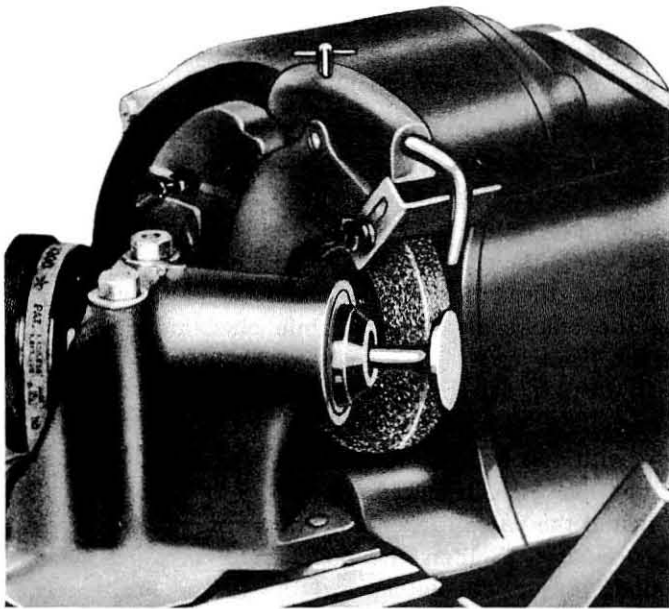

Fig. 21—Refacing Valves
(2) **REFACING VALVES.** Grind the valve face at a 45° angle on a valve grinder (fig. 21). Grind off only enough stock to remove pits and grooves from the valve face.